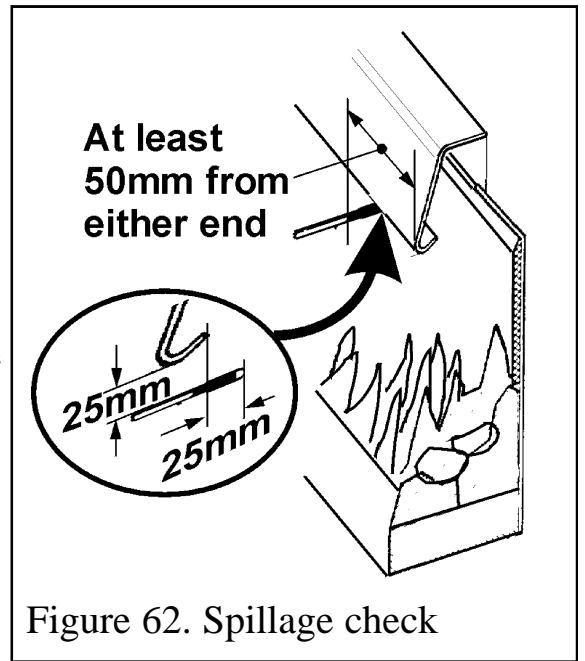

Figure 62. Spillage check
4. Place the smoke match into the appliance canopy (See figure 62).